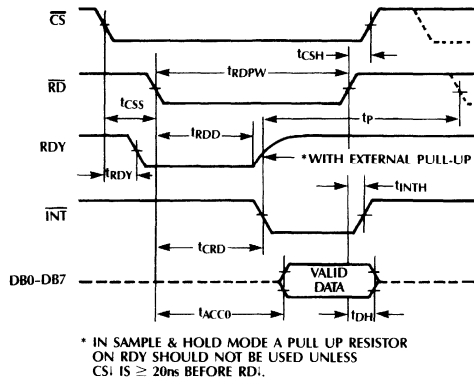

Figure 2. RD Mode Timing
**AC Performance Read Mode (Pin 7 = 0V), Figure 2**
AC Performance Read Mode (Pin 7 = 0V), Figure 2 (Continued)
The timing for the RD mode is shown in Figure 2. To do a conversion, CS must be low to select the device. After CS goes low, the RDY output goes low indicating that the device is ready to do a conversion. The conversion starts on the falling edge of RD. While RD is low, the MSB and LSB decisions are made with internally generated clock edges. When the conversion is complete, RDY goes high and  $\overline{\text{INT}}$  goes low signaling the end of the conversion. After  $\overline{\text{INT}}$  goes low, the data outputs go from high impedance to active state with valid output data. Data stays valid until either RD or CS goes high. When either signal goes high, the output data lines return to the high impedance state and  $\overline{\text{INT}}$  returns high. A pull up resistor on RDY in the sample and hold mode will cause clock injection, degrading the total unadjusted error, unless  $\text{CS}\dagger$  is  $\geq 20\text{ns}$  before RD $\dagger$ .